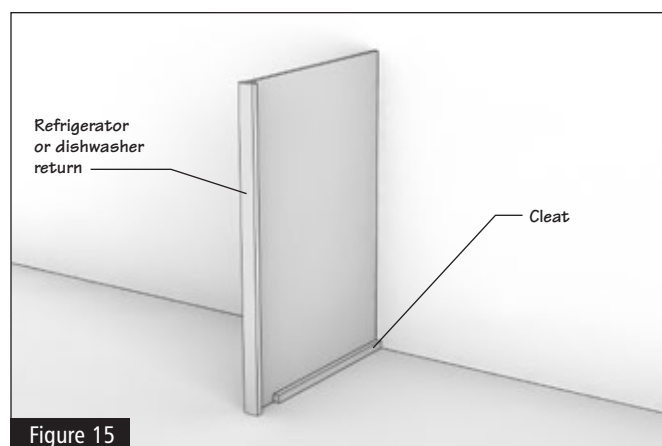

Figure 15
5.2 When installing a refrigerator or dishwasher return, it is important to mount a cleat at the floor to secure this panel. Simply cut a piece of 1 x 2 dimensional lumber about 20" long so it is not exposed at the front of the panel. Then secure to the floor with 2–3 fasteners (concrete screws for concrete floors / wood screws for wood floors). Secure the cleat to the panel (DWR, RR, SFR, etc.) with 2–3 wood screws. (Figure 15)